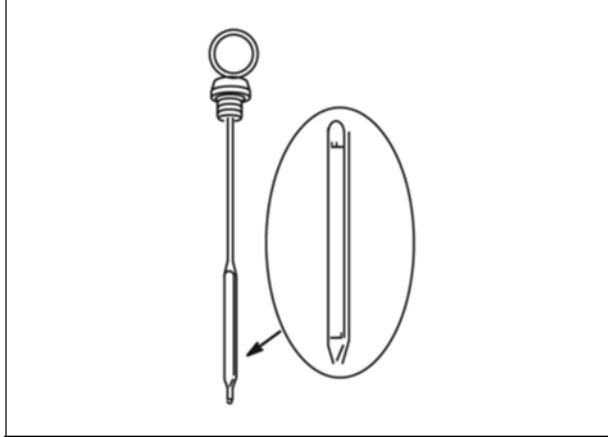

Figure 4
1. Oil level should be between the LOW and FULL mark on the dipstick (Figure 4). If oil level is low, check for leaks and add to FULL mark.